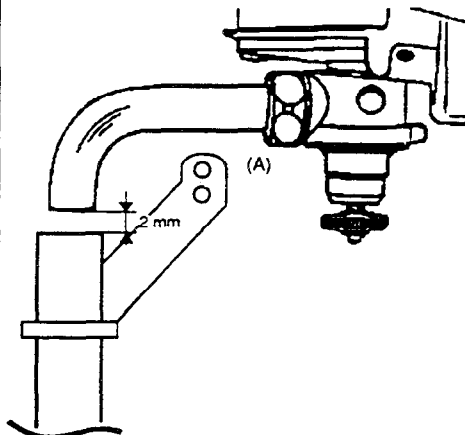

Fig. 24
c) Fit support bracket (A).
N.B. The drain must be 22 mm and the 14 mm drain bend from the safety valve must be installed so that discharge of water is readily visible. A tundish arrangement is acceptable. The connection must NOT be made by a capillary or compression fitting directly between the 14 mm drain bend and the 22 mm discharge pipe without an 2 mm air gap. see fig. 24.